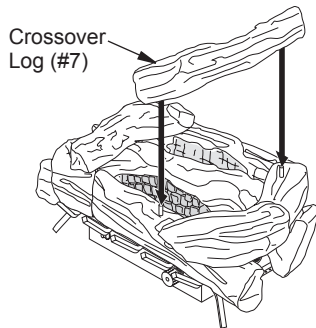

Figure 25 - Installing Crossover Log (#7)
6. Place crossover log (#7) onto pin on crossover log #6 and pin on right front log (#4) (see Figure 25).